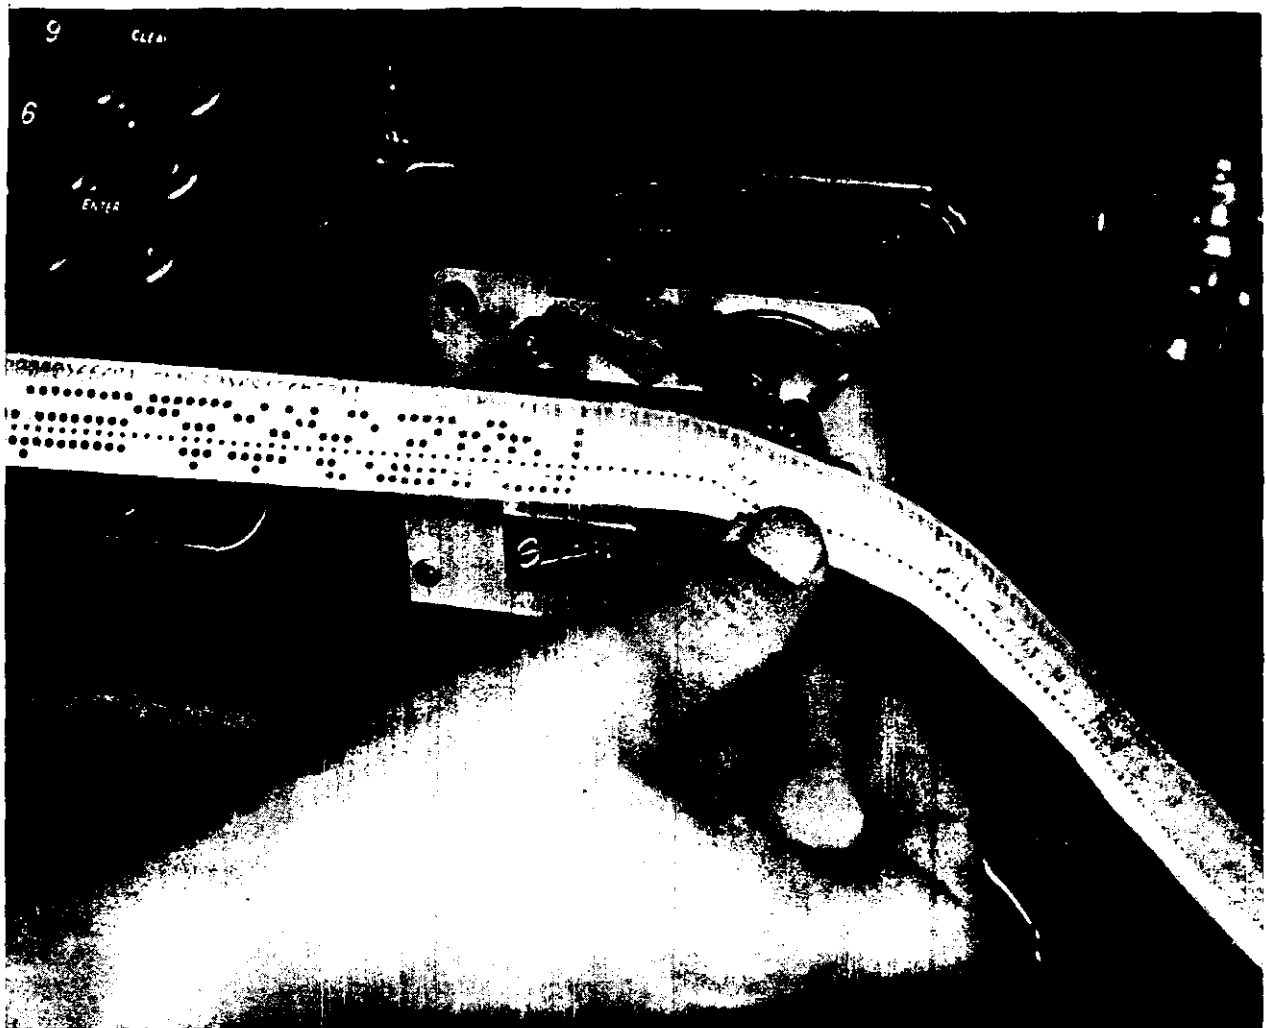
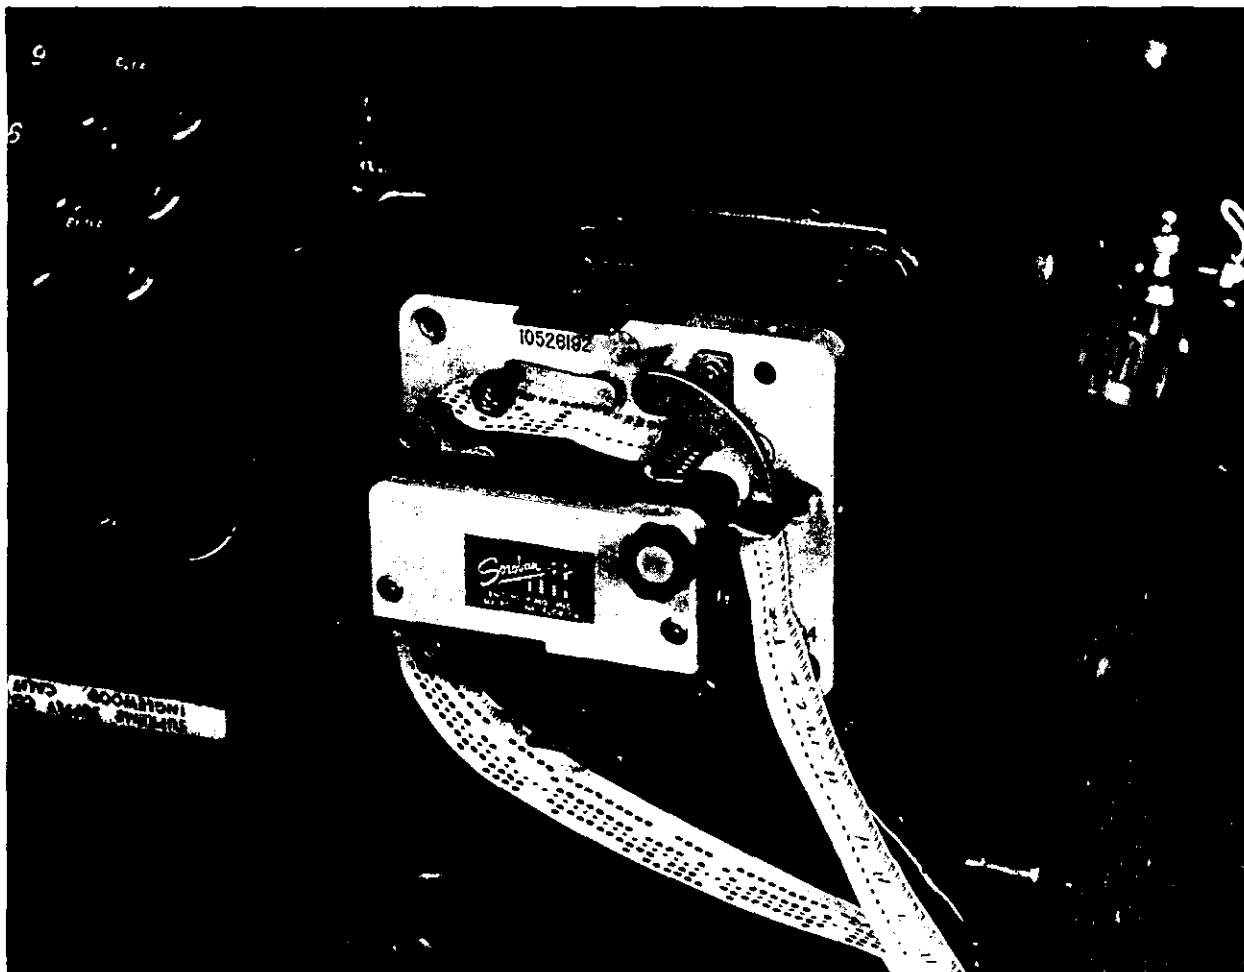

Figure 6. Determining the front of the meteorological message tape.
Figure 7. Meteorological message tape in reader, armature closed.
- (1) Determine the front of the tape by placing the tape in the tape reader with the wide side toward the computer and the printed side up (fig. 6).
- (2) Open the armature clamp that keeps the tape in place.
- (3) Place the tape in the track with the wide side (three holes) toward the computer.
- (4) Insure that the message section of the tape is to the left of the read head; the read head is under the armature clamp.
- (5) Place the tape under the clamp, engage the tape under the clamp, engage the tape in the sprocket holes, and fasten the armature clamp (fig. 7).
- (6) Turn the sprocket knob on the reader to insure that the tape is properly engaged.
- (7) If the tape does not move freely, open the clamp and insure that the sprocket holes in the tape are engaged on the sprocket and that the tape is properly threaded between the read head and the sprocket. Close the clamp and turn the sprocket knob again.